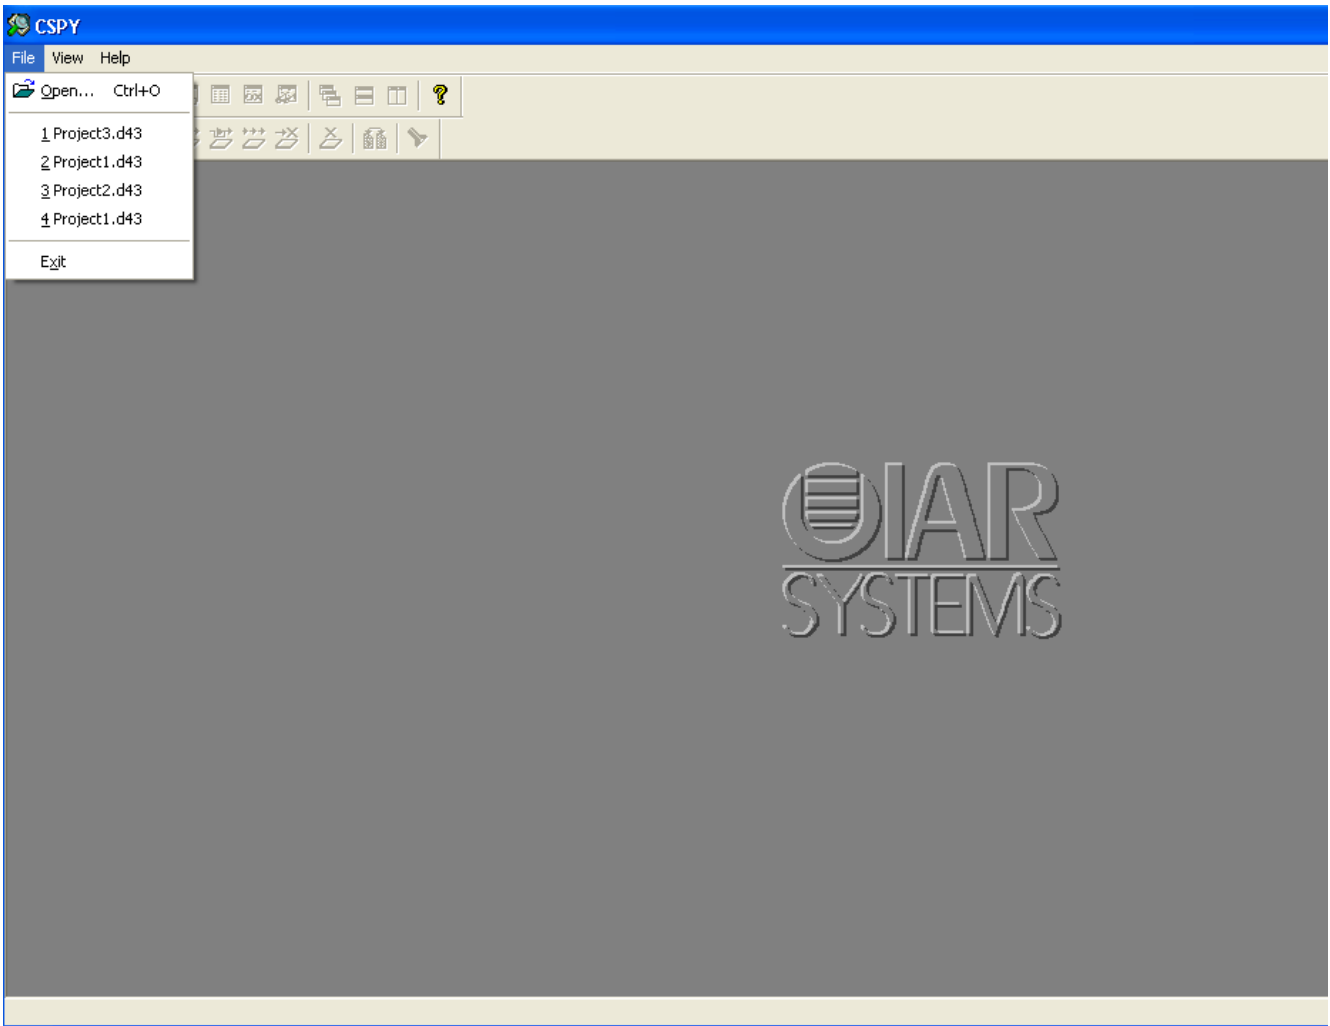
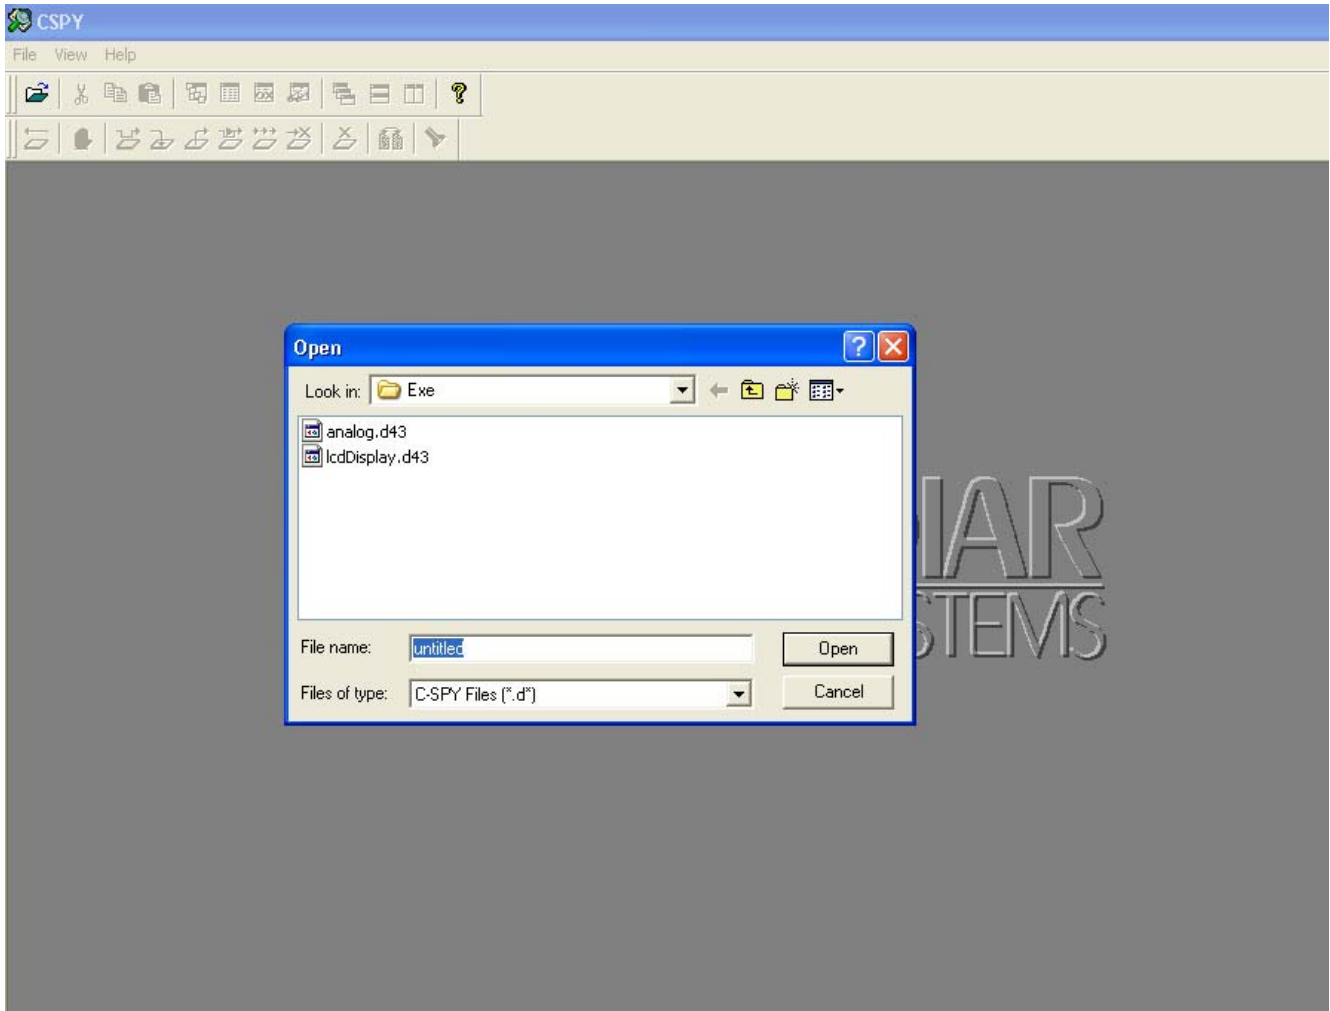
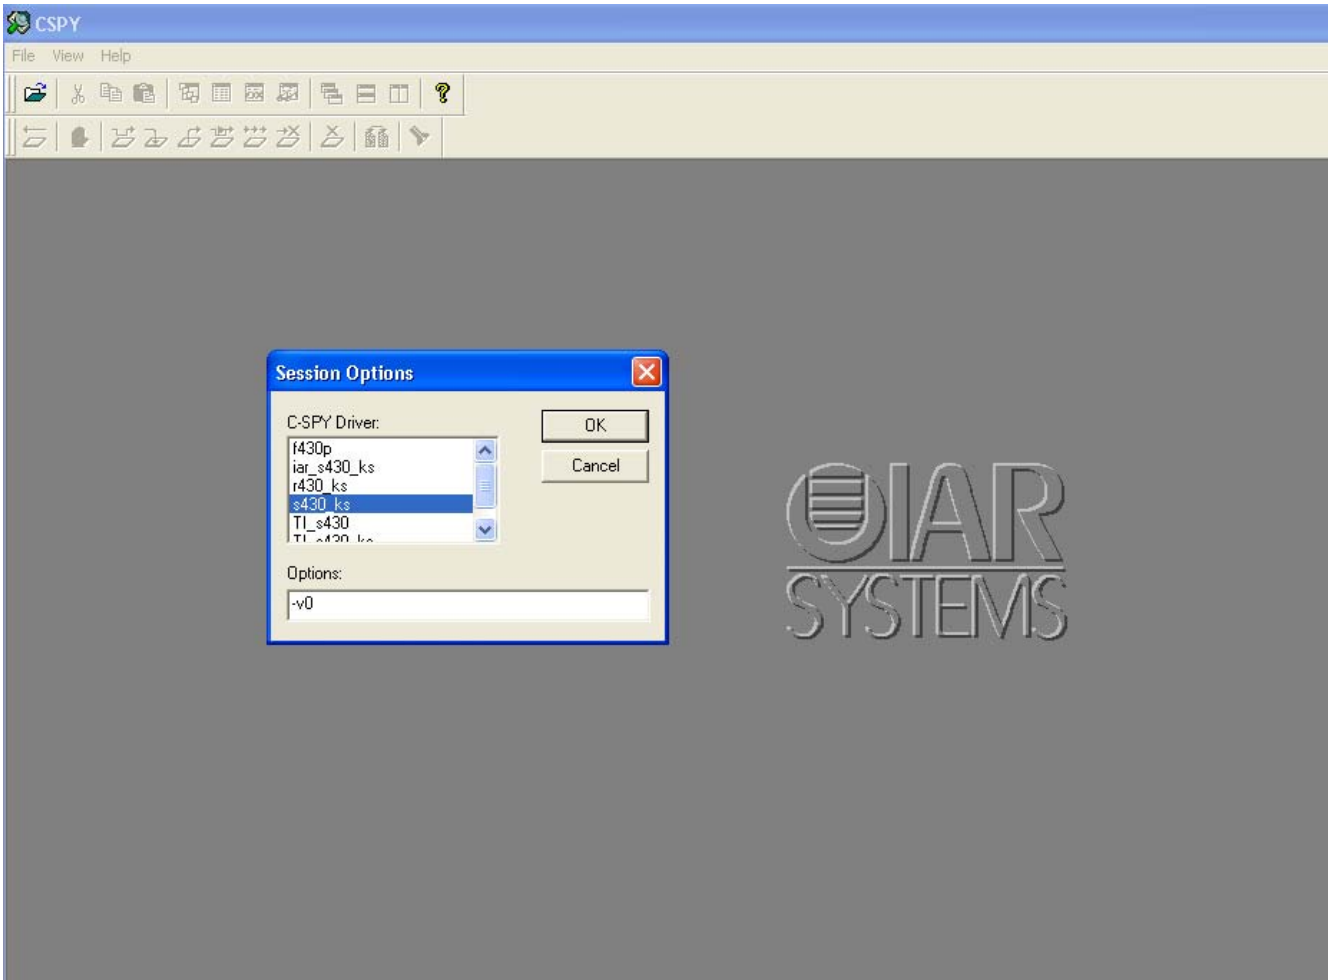

Figure 17: Showing procedure in building software, Step 11.
Figure 18: Showing procedure in building software, Step 12.
Figure 19: Showing procedure in building software, Step 13.
- Step 11: Click on **OK** in Figure 15 will produce the screen of Figure 17 after clicking Clicking on **File**.
- Step 12: From Figure 17, click on **File /Open** to produce the window of Figure 18.
- Step 13: From Figure 18 click on **lcdDisplay** and then **Open** to produce the window of Figure 19.
- Step 14: In Figure 19 select (click on) **f430p** and **OK**. Provided that the FET cable Is inserted to your PC printer port and the JTAG plug on you processor board and provided you have built your board correctly, you will see the screen go through a stage of showing that the board is being erased and then show it being programmed. After the programming stage is complete, depress and release the push button just to the right of the JTAG connector. You should see some +/- 1.8888 type stuff scroll across your lcd and then you should see HELLO scroll across the lcd. Congratulations!!